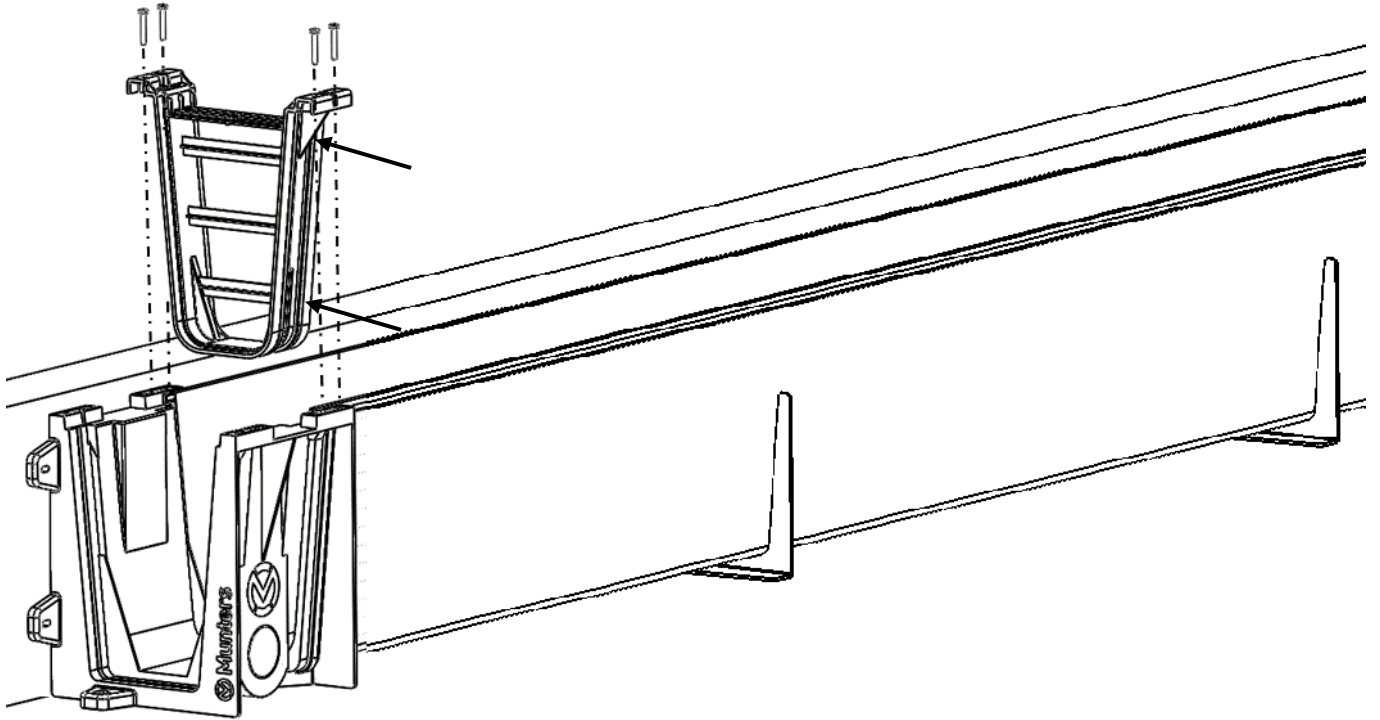

Figure 9
Fix it to the Supply Unit Connection Bracket by means of (4 pcs) Screws for thermoplastic [ref. 7]. See Figure 9.